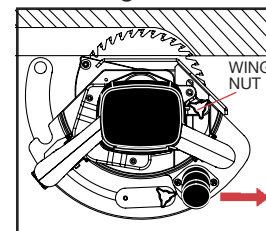
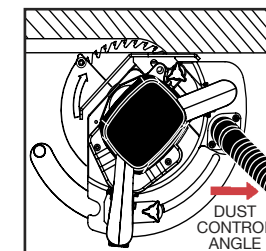

Figure 7
Figure 8
- The depth adjuster accurately controls depth of cut for straight-on (figure 7) or a 45° angle (figure 8).
- Cutting on a 45° angle captures as much dust as possible inside the housing. When using this saw with a vacuum, this is the most effective way to control dust (see figure 8).